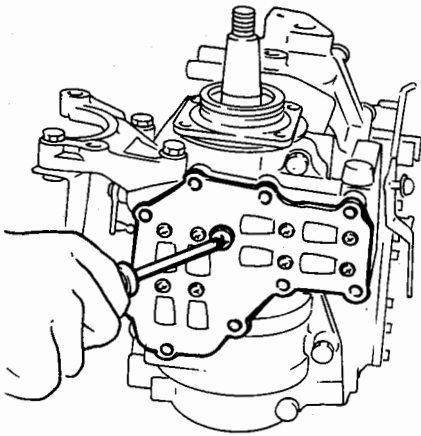

Fig. 54 Installing the reed valve assembly
- 2) Apply the thread locking adhesive to the valve seat installing screw (+ 616-1) (Only one for the center), temporarily tighten and tighten with a screwdriver inserted into the hole of the carburetor installing flange after tightening the inlet manifold. (Fig. 54)